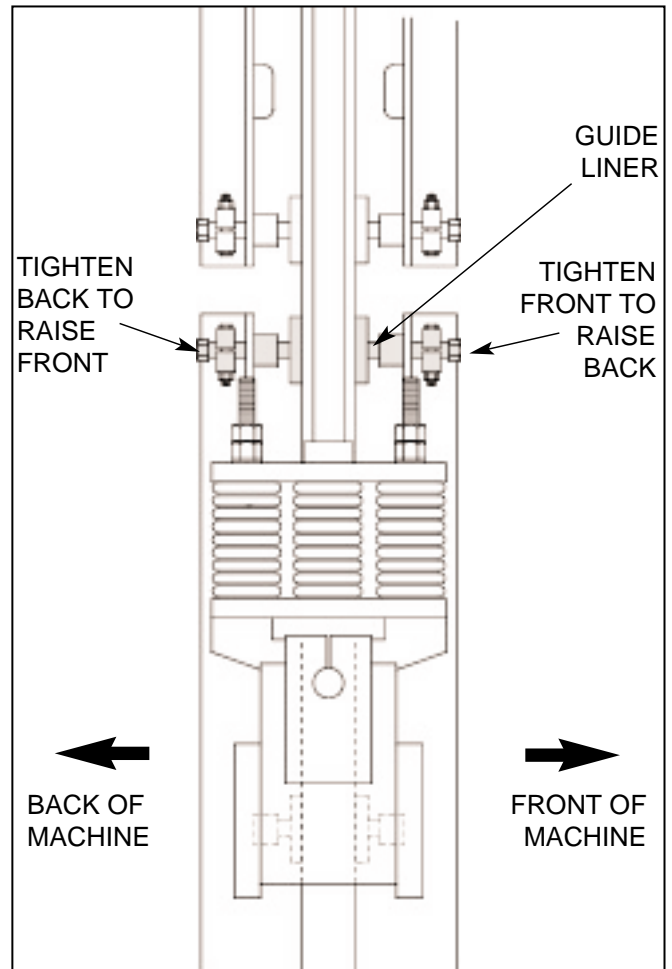

Figure 5.20 PALLET RECEIVER FRAME ADJUSTMENT.
5.5.13 Make adjustments on right hand side by backing one guide liner away from slide shaft and tightening the other against the slide shaft. To raise the front, loosen the front and tighten the back. To raise the back, loose the back and tighten the front. See figure 5.20 below.